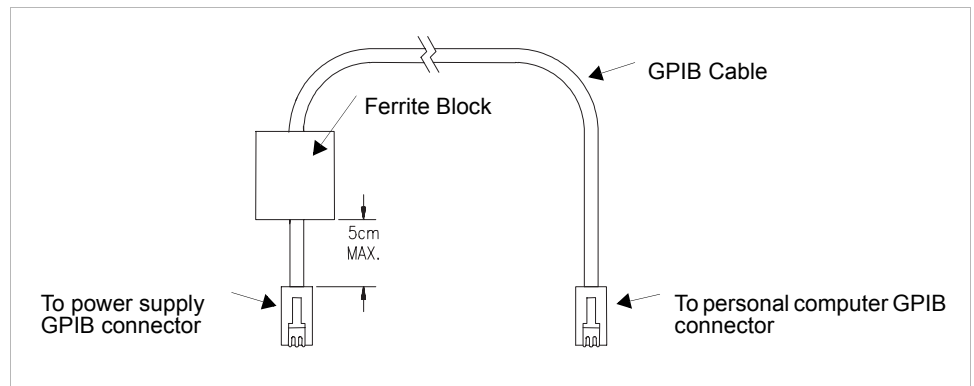

Figure 2.9 XFR GPIB Cable with Ferrite Block
3. Run the cable through the ferrite block. See Figure 2.9, “XFR GPIB Cable with Ferrite Block” on page 31.